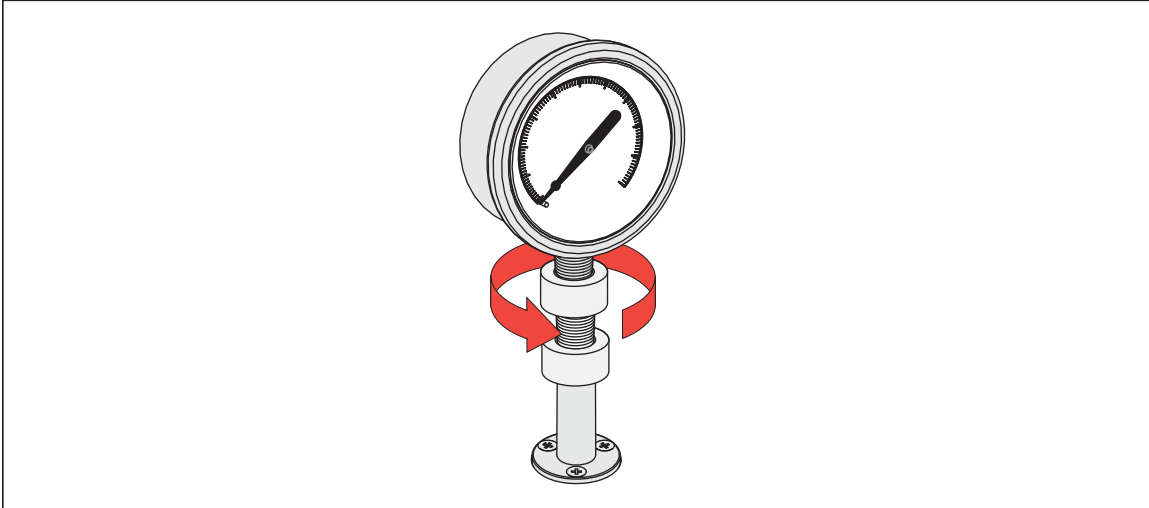

Figure 7. Connect Assembly to Test Port
2. Screw assembly down COUNTER-CLOCKWISE on to test port, see Figure 7.